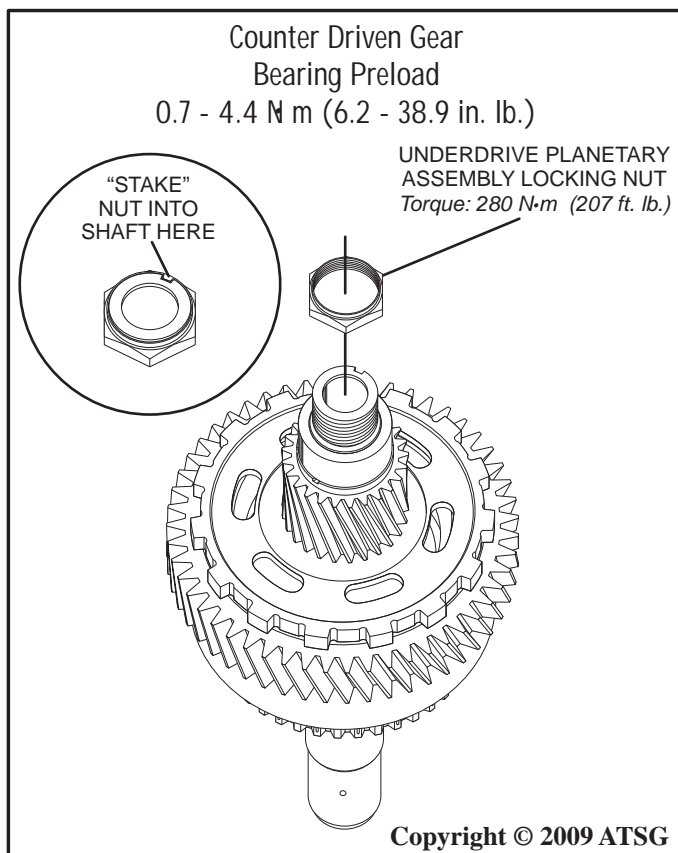

Figure 78
15. Set the underdrive planetary assembly into a soft jawed vice or similar holding device to avoid damage to the differential drive pinion gear then install a new locking nut using SST 09564-16020 or a suitable socket and torque the locking nut to 280 N·m (207 ft. lb.) as shown in Figure 78.
17. Once proper preload has been determined and correctly set, "stake" the nut into the shaft as shown in Figure 78.